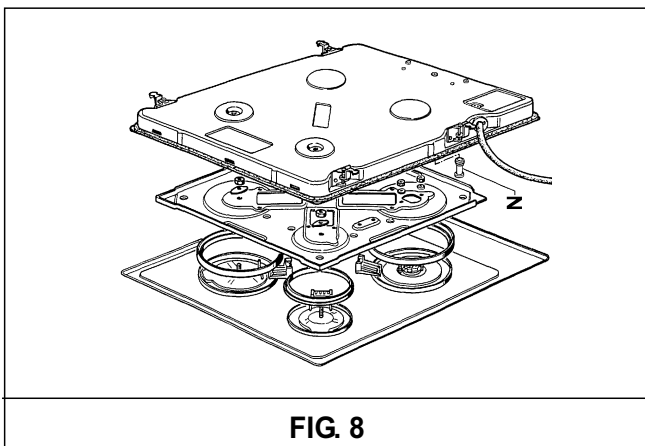

FIG. 8
a) remove the hotplate from the top of the cabinet, overturn it, unscrew screw "Z" and remove under part (see fig. 8).
For access to the various parts, remove the hotplate from the top of the cabinet. Then overturn it, unscrew screw "Z" and remove under part. (see fig. 8).